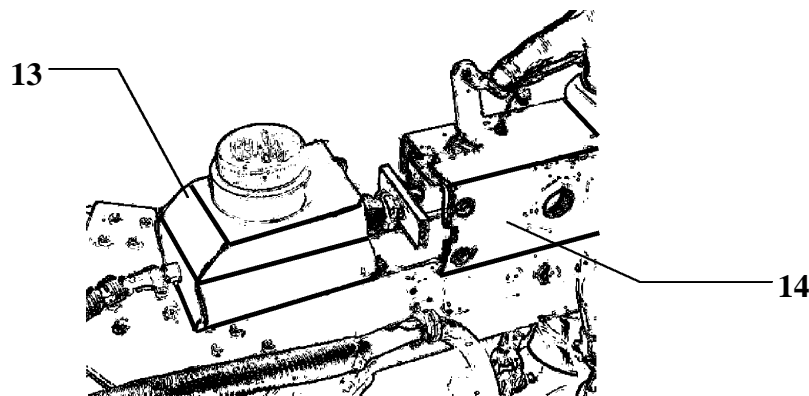

Figure 3
6. Remove master cylinder (13) from housing (14). (figure 3) Tie out of the way so master cylinder does not hang by the hydraulic hose. Do NOT disconnect hydraulic hose or in any way open the brake hydraulic system.